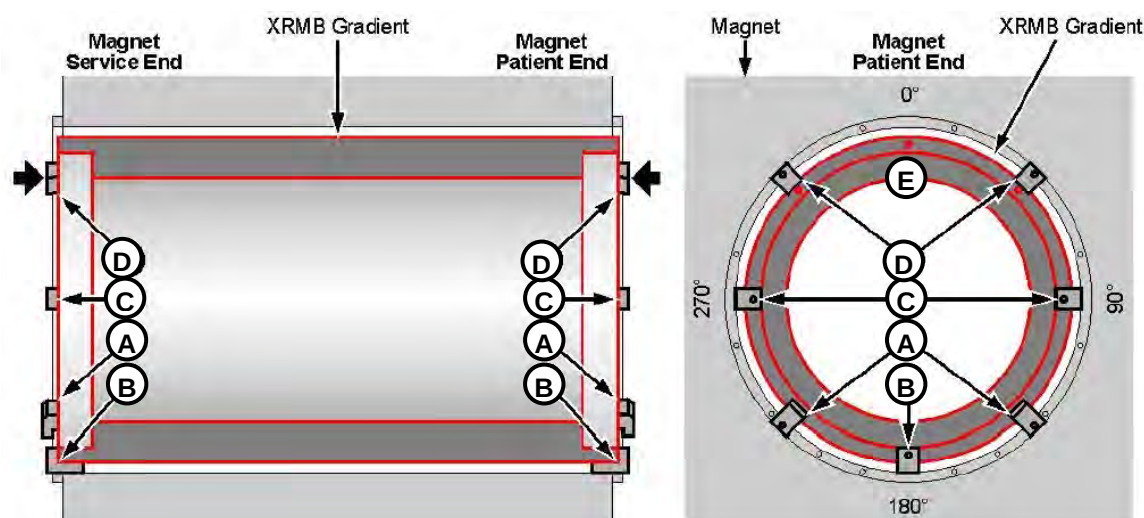

Figure 58 – Installing the upper Wedges
- Y. Use the same method as in step "s", install 45° and 315° wedge to both ends of the magnet. Push the wedge into the bore until snug. Working at one end (patient or service), tighten the bolt onto the wedge, alternating between the 90 degrees and 270 degrees wedge to maintain the coil in the center of the bore. Repeat this step on the other end. **(Fig58, D)**
- AA. Use the same method as in step "t", install 0° wedge to the patient-end of the XRMB. (there is no wedge at 0° at the service end). **(Fig 58, E)**